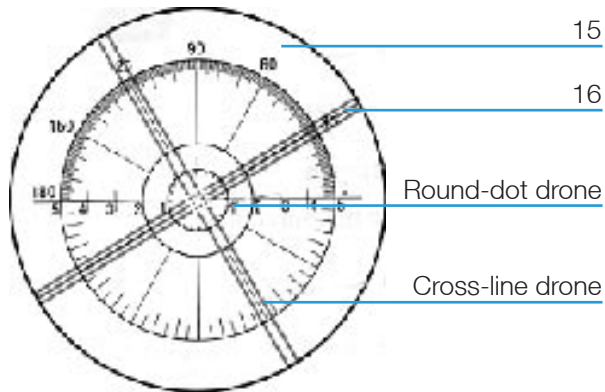

Fig. 4
3.2 Drone and Eyepiece Dividing Plate (Fig.4)